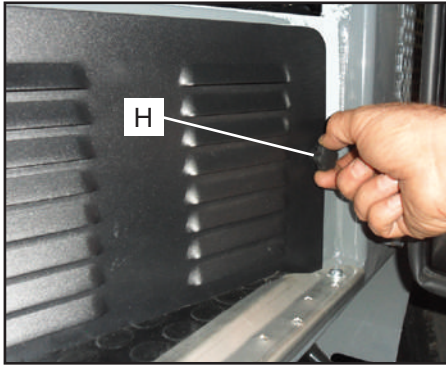
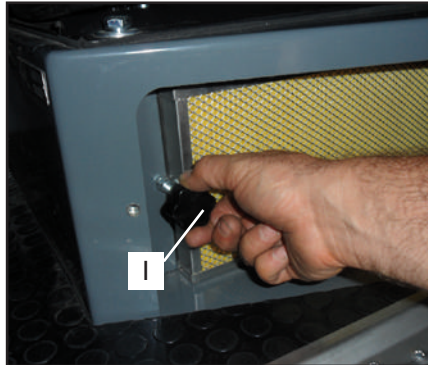
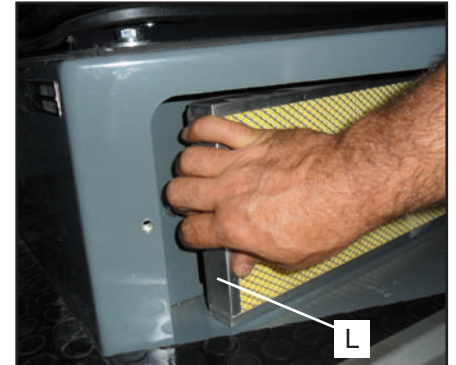
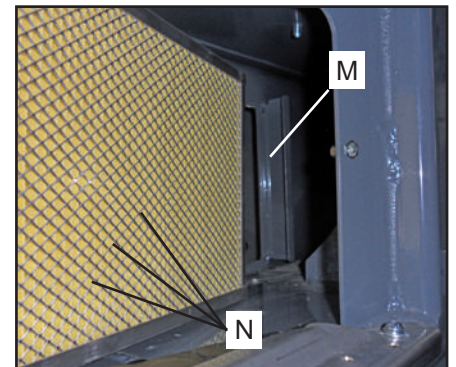

fig.4
fig.5
fig.6
fig.7
It should be remembered that, for good operation, the filter (G) situated under the driver's seat, on door side, must be kept clean (fig.4).
The filter can be reached by removing the 2 handwheel screws (H fig.4), Once you have removed the cover, unscrew and remove the holding handwheel (I fig.5), pull the filter outwards slightly (L fig.6) and then slide it out from where it is inserted (M fig.6) clean it with air and fit it back in place with the grille at the front (N fig.7)